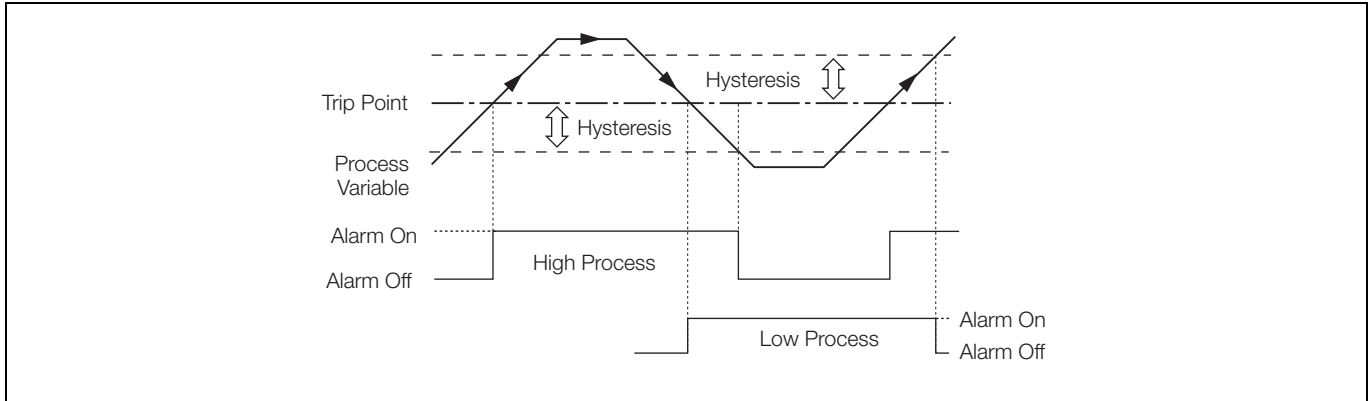

Fig. 4.11 High/Low Process Alarms
- High/Low process – see Fig. 4.11, page 85
Note. Process and Latch alarms only – see Figs 4.11 and 4.12 on page 85.